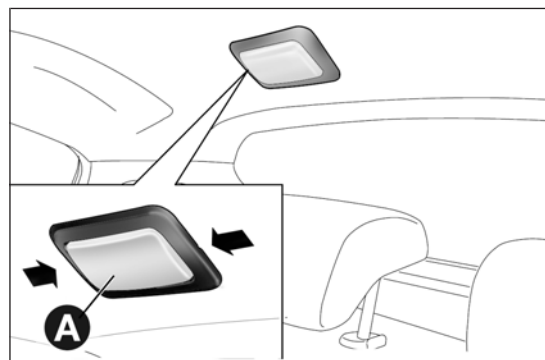
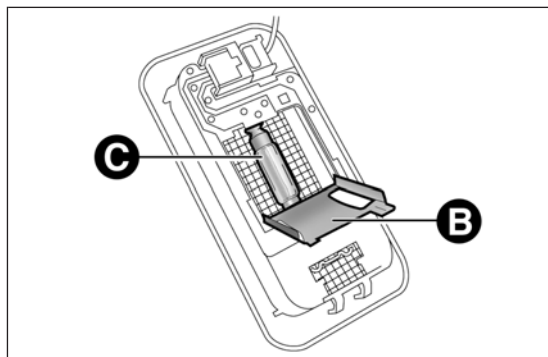

fig. 152
fig. 153
- remove the roof light A fig. 152 working at the points indicated by the arrows;
- open the protective flap B fig. 153 and replace the bulb C releasing it from the side contacts. Make sure that the new bulb is correctly secured between the contacts;
- reclose the protective flap B fig. 153 and fix the roof light A fig. 152 in its housing making sure that it is locked.